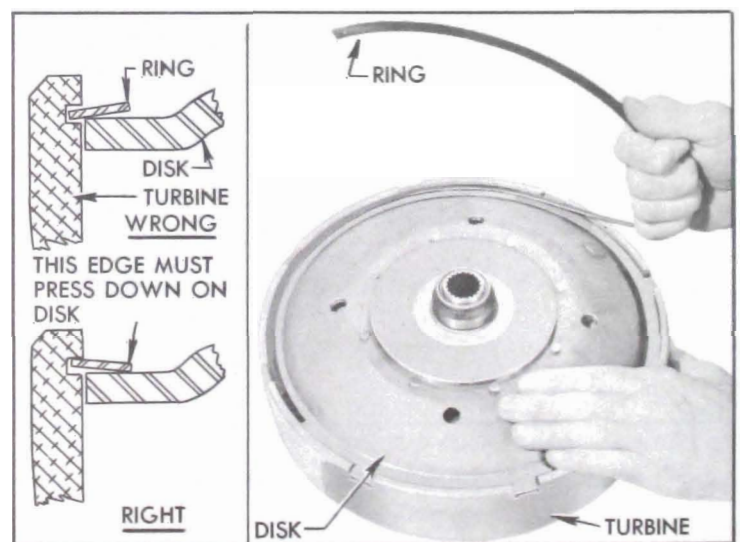

Figure 5-57—Installing Disk Retaining Ring
17. Note that the turbine disk retaining ring is "dished." Place the ring in position with the "dish" upward so that the inner edge will bear firmly against the disk when the ring is engaged in the groove in first turbine. See Figure 5-57.
18. Start one end of ring into groove in turbine, then twist the ring upward as shown in Figure 5-57 to lay the ring flat on the disk so that it can be progressively entered into the groove all the way around.